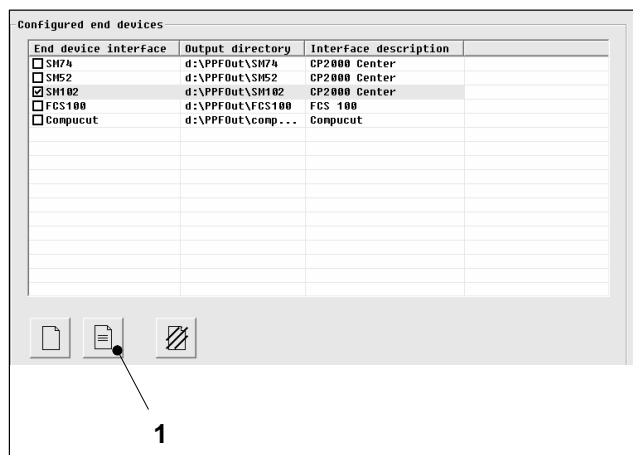
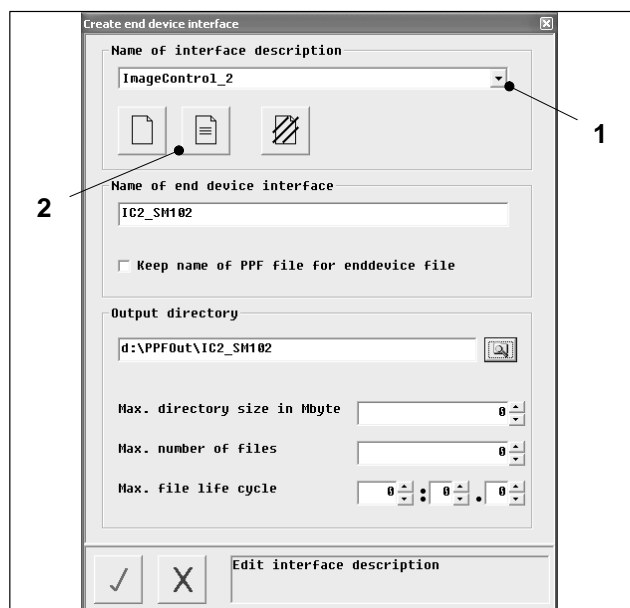

Fig. 47 The *Edit terminal interface* button
Fig. 48 Selecting an interface description
1. Click on the *Edit terminal interface* button (Fig. 47/1). The *Edit terminal interface* dialog window shown in Fig. 48 appears.
2. Click on the arrow to select the interface description to be edited from the list (Fig. 48/1).
3. Click on the *Edit interface description* button (Fig. 48/2).
The *Edit terminal interface* dialog window (Fig. 48) appears again.